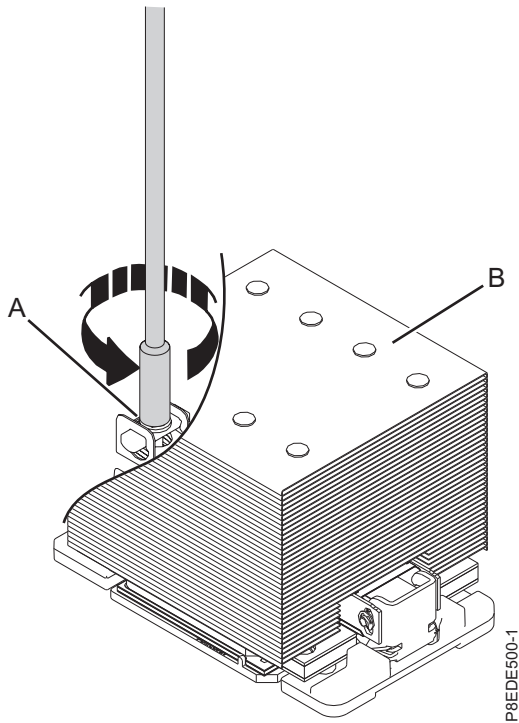

Figure 4. Removing the heat sink
- a. Loosen the heat sink actuation screw by turning the supplied 5.5 mm nut driver (part number 43W3032) counterclockwise (**A**) until the screw becomes loose and moves freely as shown in Figure 4 on page 6.